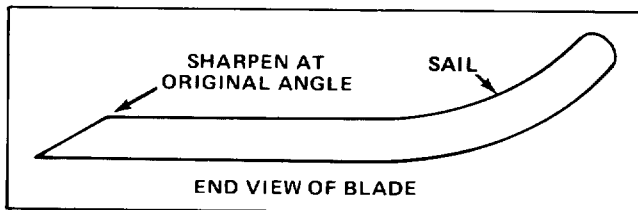

Figure 24
3. Inspect cutting edges of all blades. Sharpen the cutting edges if they are dull or nicked. Sharpen only the top side of the cutting edge and maintain the original cutting angle to make sure of sharpness (Fig. 24). The blade will remain balanced if same amount of metal is removed from both cutting edges.